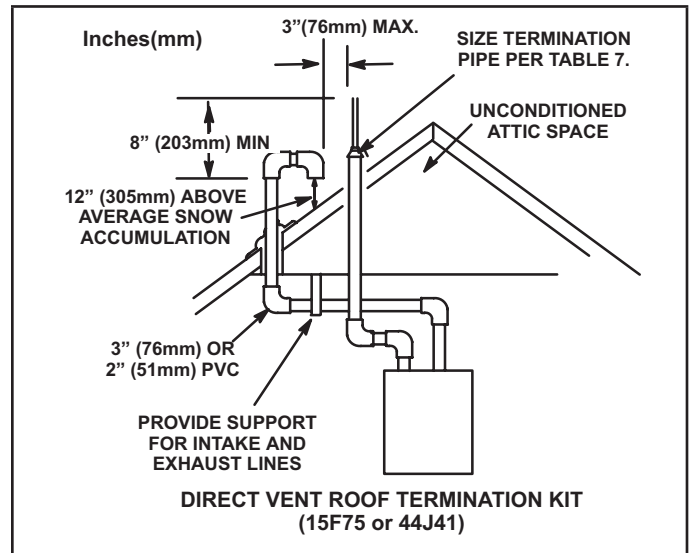

FIGURE 25
Intake and exhaust pipes may be routed either horizontally through an outside wall or vertically through the roof. In attic or closet installations, vertical termination through the roof is preferred. Figures 25 through 30 show typical terminations.
- 3 - On roof terminations, the intake piping should terminate straight down using two 90° elbows (See figure 25).